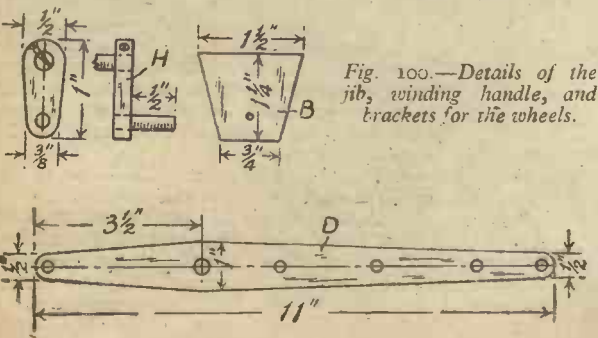

Fig. 100.—Details of the jib, winding handle, and brackets for the wheels.
Making the Jib.—To make the jib (D) cut two pieces of ¾ in. wood to the shape shown in Fig. 100, and make the holes in each a tight fit for pieces of knitting-needle. Cut five pieces 1 in. long, and one piece 2½ in. long.